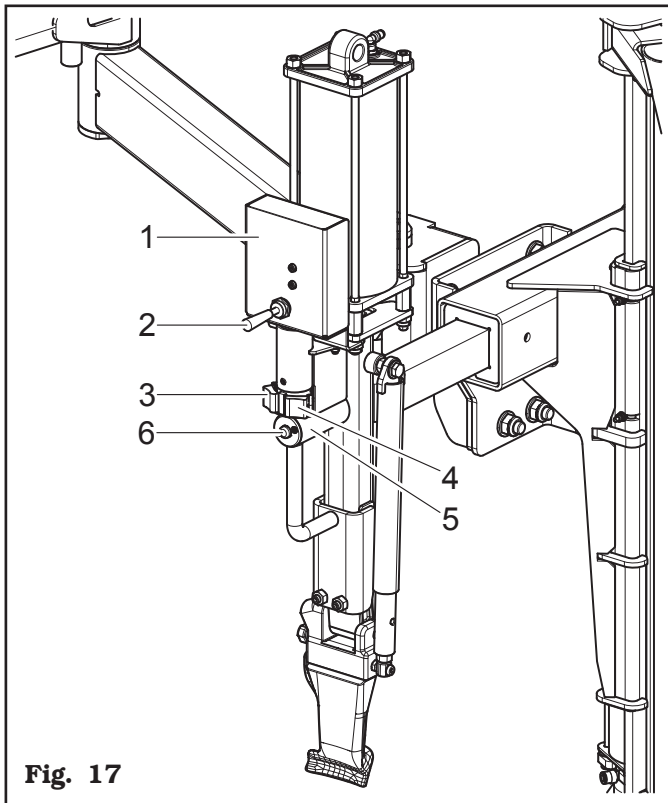

Fig. 17
It is made up of an handle control (**Fig. 17 ref. 1**), positioned on the tool arm. Through this handle control you can control the vertical translation for the tool introduction and bead coupling. Lift the lever (**Fig. 17 ref. 2**) to operate the upwards translation, and lower the lever (**Fig. 17 ref. 2**) to perform the downwards translation;
- a control with two push-buttons: press the button (**Fig. 17 ref. 3**) to unlock the vertical translation and to move upwards the tool arm, by pressing the push-button (**Fig. 17 ref. 4**) you can unlock the horizontal translation and move downwards the tool arm;
- a handle control (**Fig. 17 ref. 5**) through a thrust and return movement, together with (**Fig. 17 ref. 6**) unlocking push button, enables tools setting on wheel diameter (only horizontally).